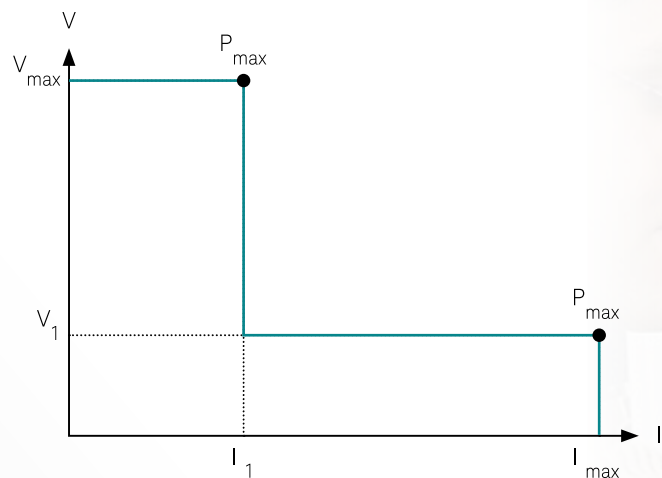

Figure 6. Dual-range output characteristic provides more voltage-current combinations than a rectangular output
2. Dual-range output – A dual range power supply provides more flexibility in voltage-current combinations. A high voltage range provides lower current, and a low voltage range delivers more current; see Figure 6.